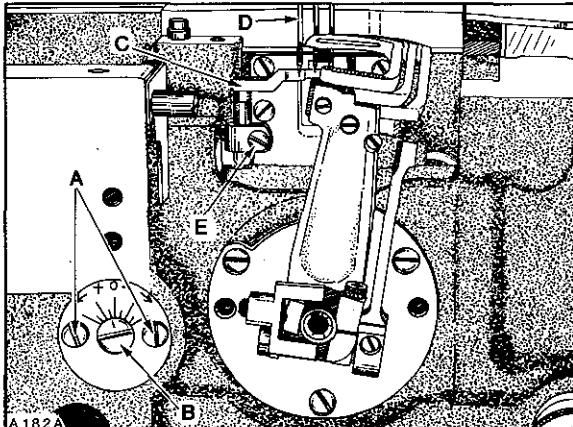
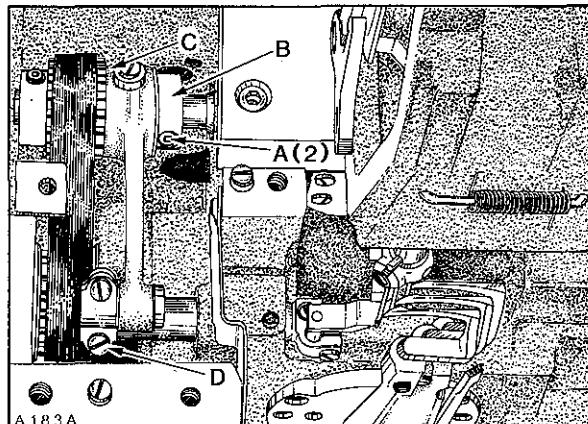

Fig.13
Fig.14
Machine is equipped with a quick adjustable looper avoid mechanism to accommodate extreme differences in needle sizes. As the looper travles from left to right with needle bar descending, the needle points should contact ONLY the lower THIRD of the back of looper blades. If looper avoid requires re-setting, loosen two screws (A, Fig. 13) and turn eccentric stud (B) towards the plus side (counterclockwise) for MORE looper avoid or towards the minus side (clockwise) for LESS looper avoid. When desired setting is acquired, tighten screws (A).
Rotate handwheel in operating direction to position looper points at the RIGHT hand side of needles. At this time the needle guard (C, Fig. 13) should be at its EXTREME END of FORWARD travel. Adjustment can be made by loosening two screws (A, Fig. 14) and turn needle guard eccentric (B) slightly as required until this condition exists. Ensure .002 inch (.051mm) clearance between needle guard eccentric (B) and looper drive sprocket (C) while tightening screws (A) securely.
At extreme forward end of travel, rear needle guard (C, Fig. 13) must be set horizontally not to contact needles (D) with a MAXIMUM clearance of .002 inch (.051mm). Guard should be set as low as possible, yet have its vertical face approach approximately 3/64 inch (1.2mm) of needle points until point of loopers moving to the left, are even with the right side of needles. Adjustment can be made by loosening screw (E), reposition needle guard as required and retighten screw.
If additional front to rear adjustment is required to maintain needle guard in a horizontal position, loosen screw (D, Fig. 14) in pivot link which allows needle guard shaft to be rotated. Be sure to take up thrust, by exerting pressure against needle guard holder to the left and pivot link to the right, when tightening screw (D).